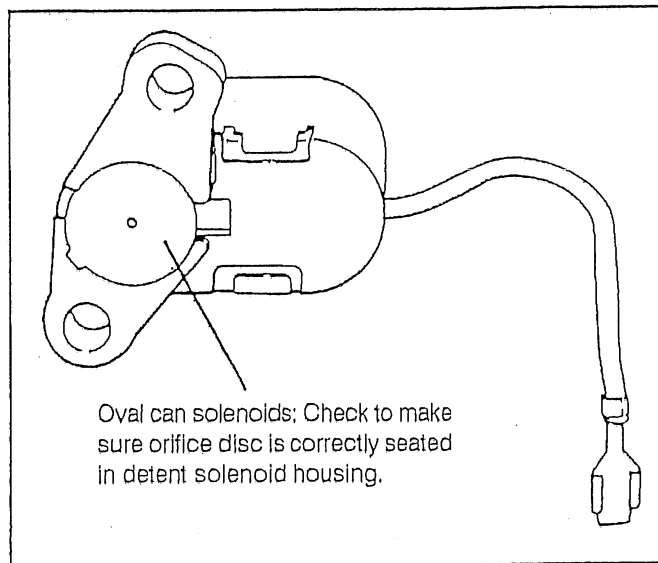

FIGURE 55
**Oval Can Solenoids:** Check to make sure orifice disc is properly seated in detent solenoid housing. (See Fig. 55) If this disc is missing, your transmission will be in passing gear all the time. Install detent solenoid in position using new aluminum gasket supplied in kit. Install 1/4-20 retaining bolts, **finger tight**.